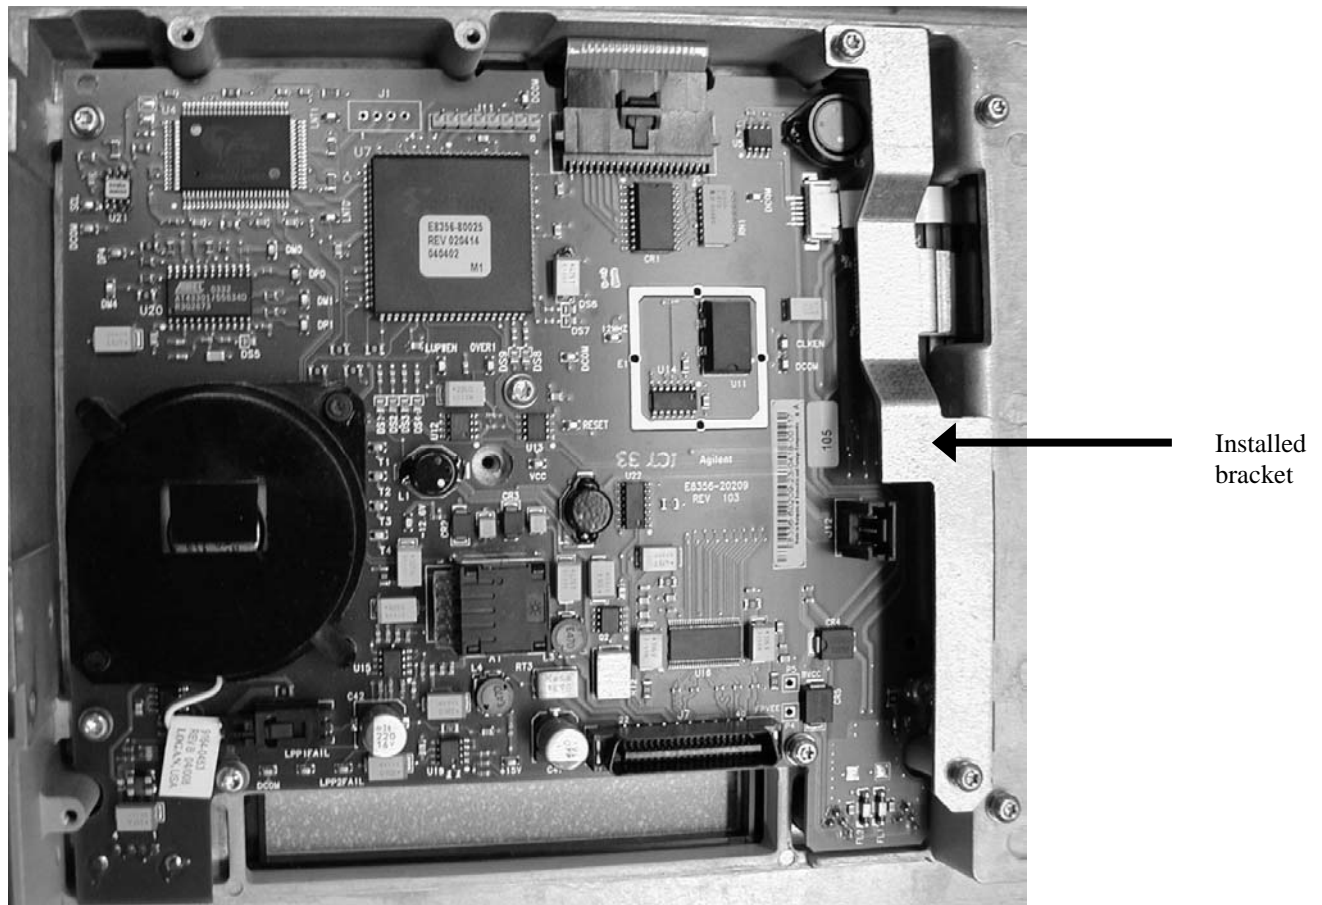

Figure 2: A3 Front Panel Interface Board Assy with the Bracket Installed
2. As shown in Figure 2 in this document, position the bracket so that its holes line-up with the two holes you located in the previous step.